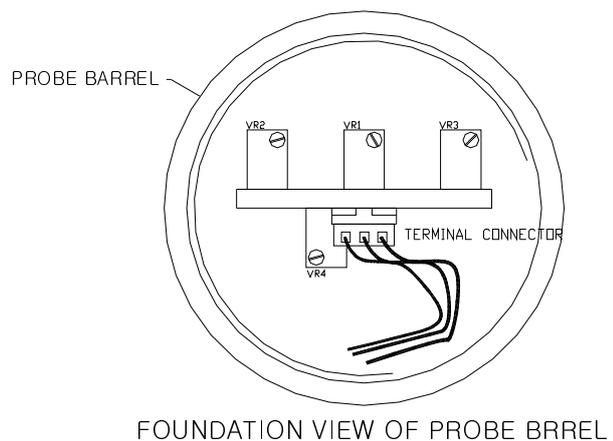

Fig. 5
2. Make be in good shape the 3 electric wires into spiral at one edge inside barrel as shown on below picture, so that they cannot be damaged by screw thread. Refer to Fig.5